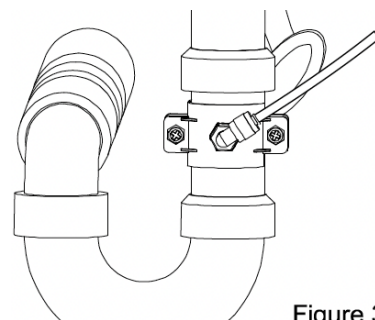

Figure 3
1. Take out the 1/4" tubing from the accessory bag, cut it to required length, attach one end to the "Drain" port on RO module assembly and attach the another end to the drain pipe line (Figure 3). Make sure the tubings are fully seated.